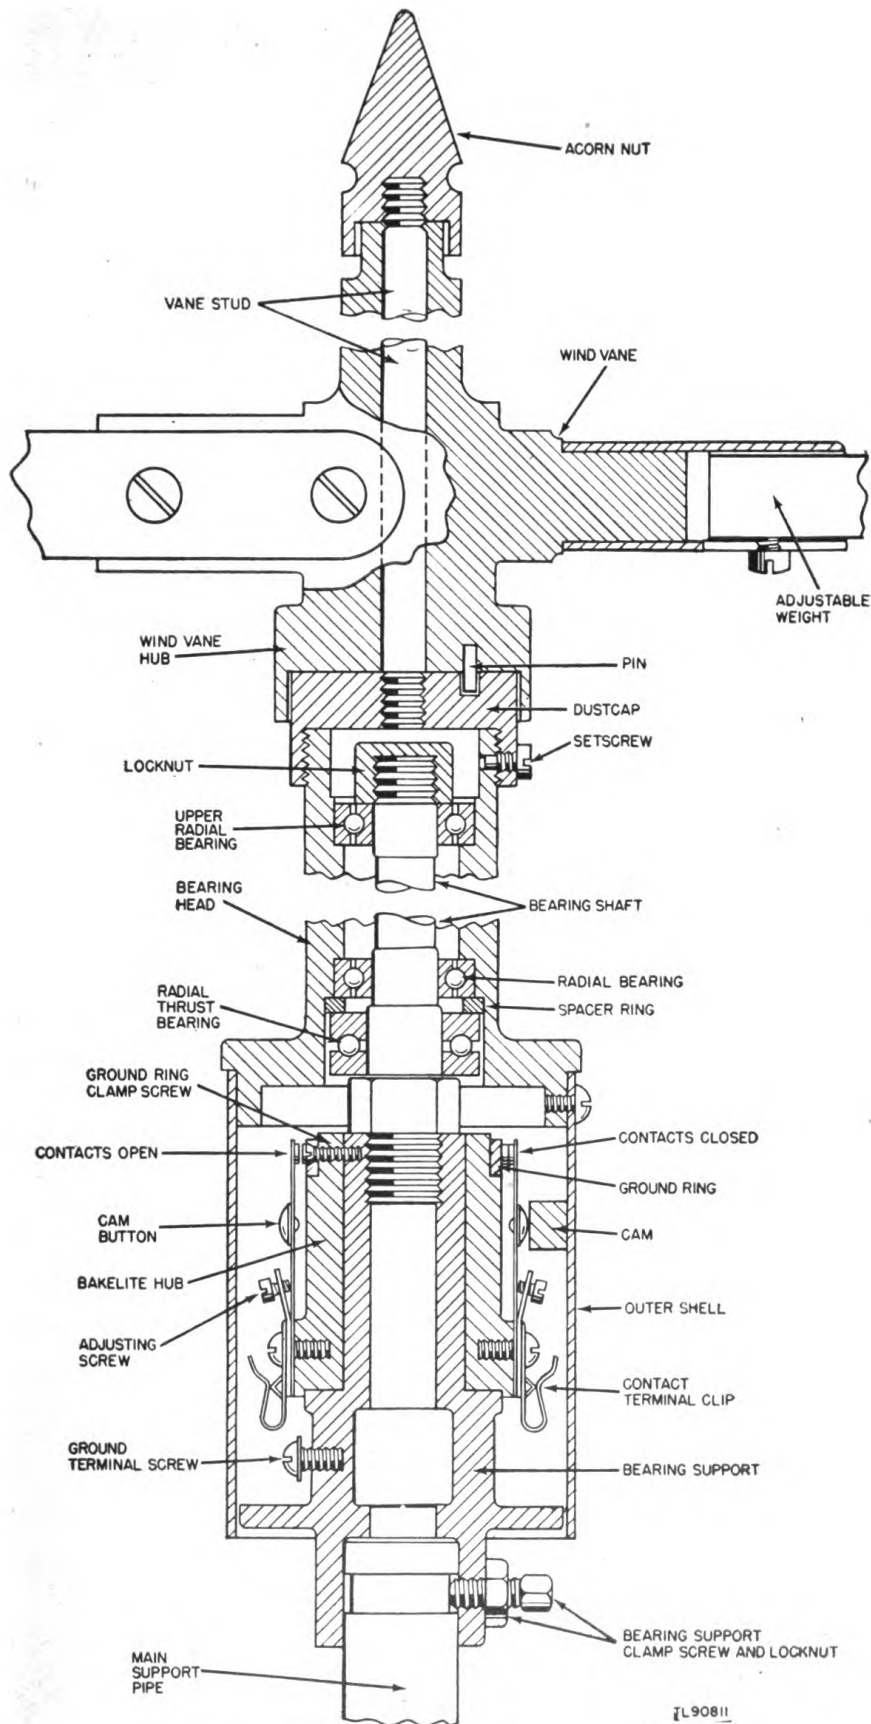

Figure 20. Bearing ML-129-D, cross-section view.
e. Indicator. (1) Keep the indicator dial dusted.
(2) Immediately replace burned-out electric lamps.
41. OVERHAULING BEARING ML-129-D (fig. 20).